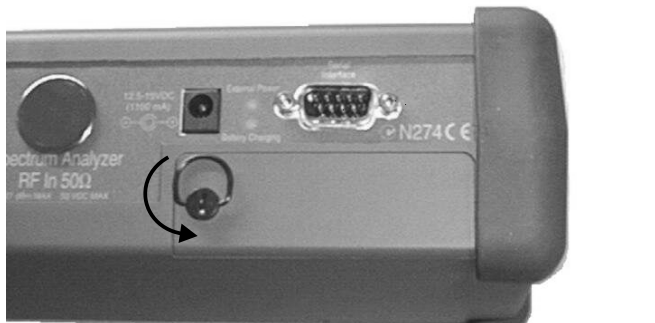

Figure 5. Rotate the Battery Access Door Handle
2. Lift up the access door handle and rotate it 90 degrees counterclockwise, as illustrated in Figure 5.